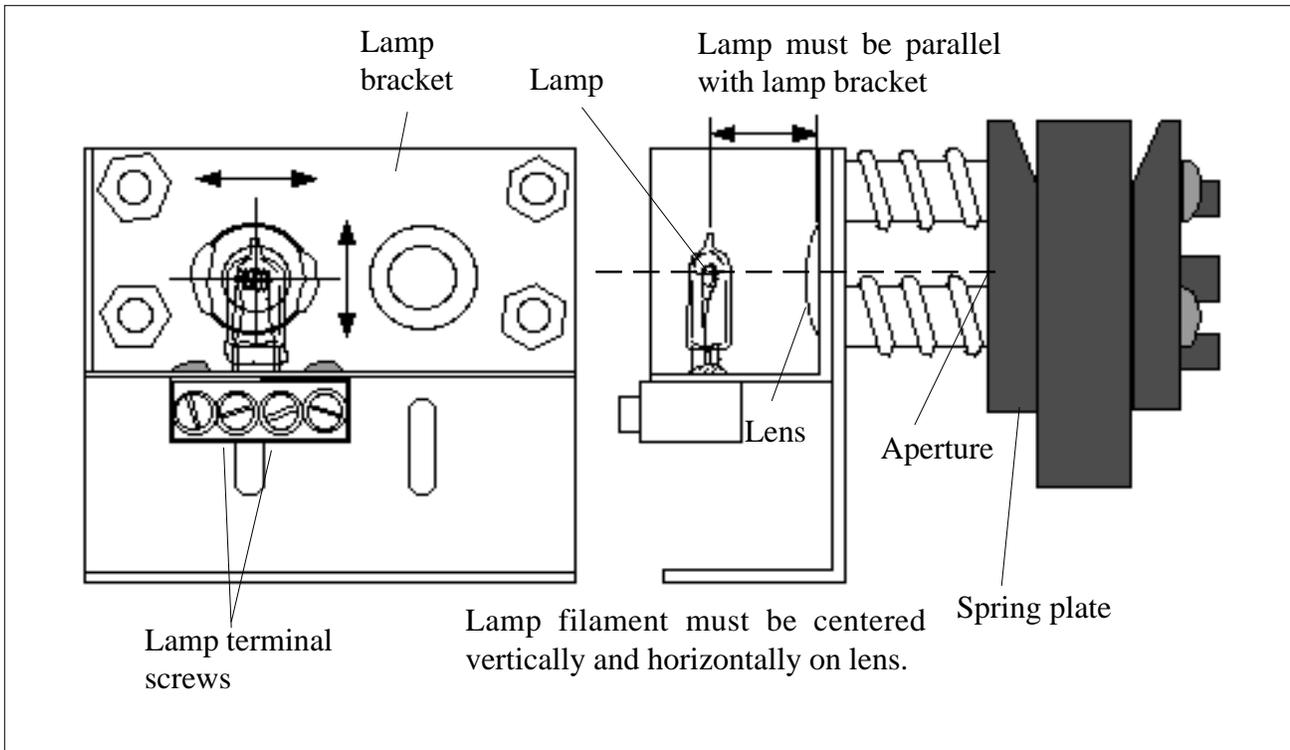

Figure 8. Lamp Replacement
2. Set the power switch to OFF (O). Open the instrument. Locate the photometer and the lamp at the left side of the photometer. Refer to Figure 8, Lamp Replacement.